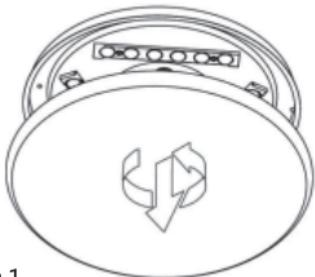

fig.1
- 1. fig. 1:** Remove the dome from the base plate (bayonet locking system).